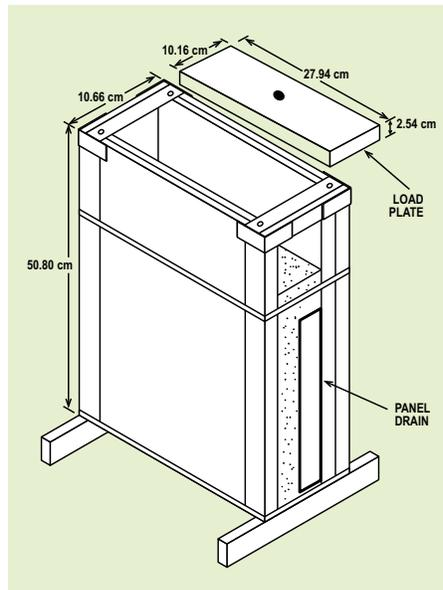

Figure 5
2. Soil Box Test. Even closer to reality is the soil box developed in 1994 by John Fleckenstein of the Kentucky Transportation Center. The test box replicates the trench condition in width, depth, panel pipe placement, and backfill material (see Figure 5).